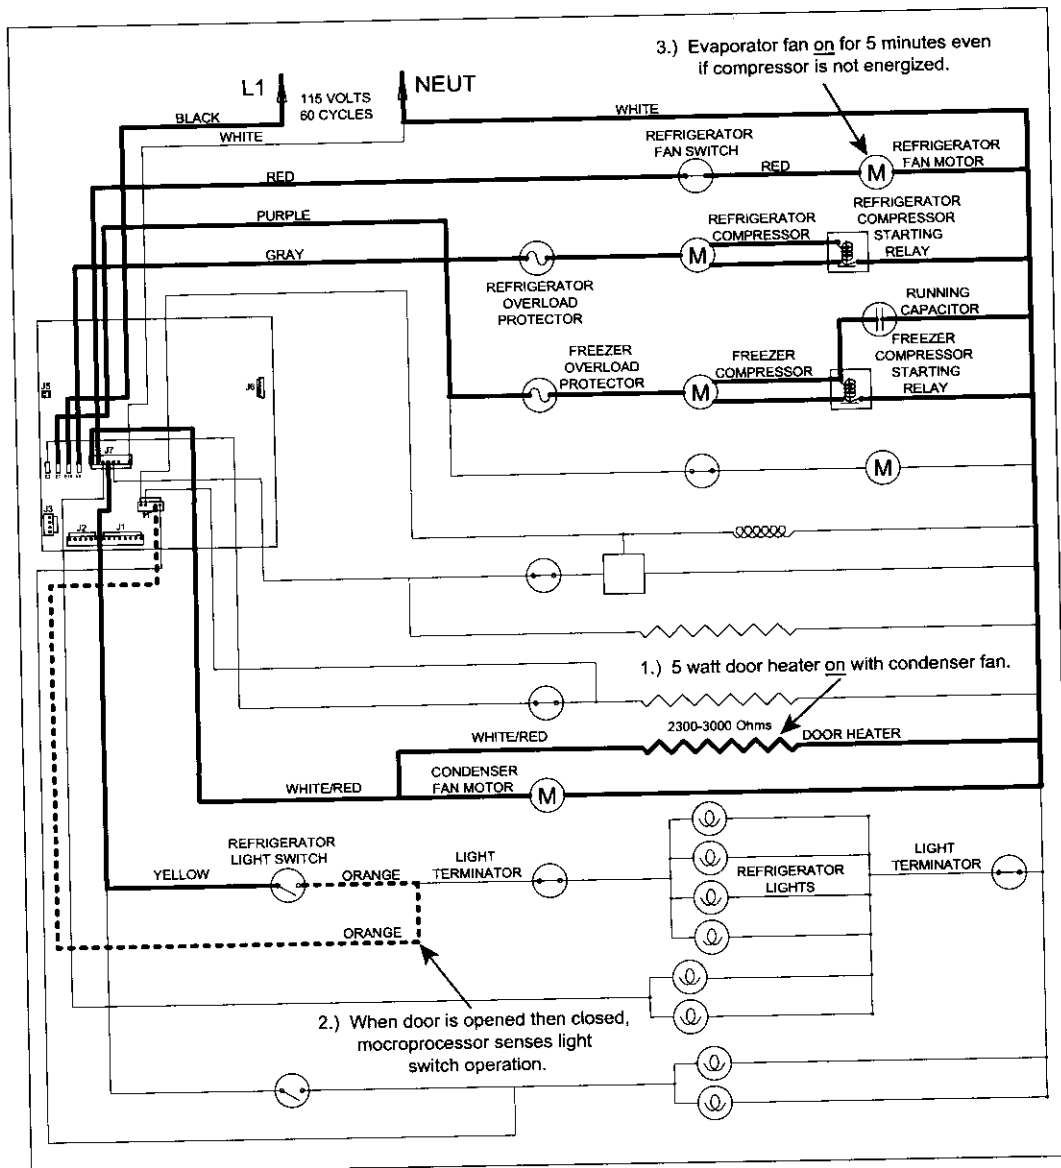

Figure 3-14. Signal Trace Schematic of 611G-3/650G-3 Door Heater & Evaporator Fan Operation
- The heater in 611G-3 and 650G-3 doors is tied into the condenser fan circuit (see Control Condenser Fan Operation on preceding page and Figure 3-14 below).
To help minimize condensation on the glass further, the microprocessor detects when the refrigerator door is opened, via the light switch, then when the door closes, the evaporator fan is energized for 5 minutes. This draws any warmer moist air away from the door glass. (See Figure 3-14)